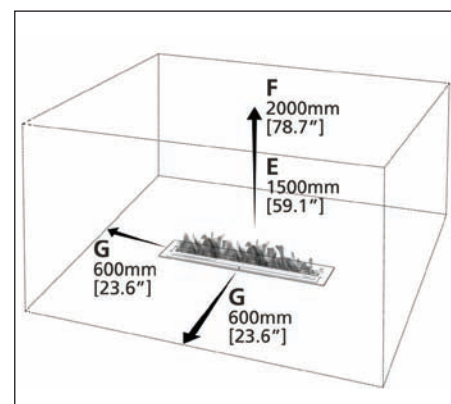

Fig. 4
B. BURNER PLACEMENT "WITHOUT A FIREBOX" (Fig. 4)